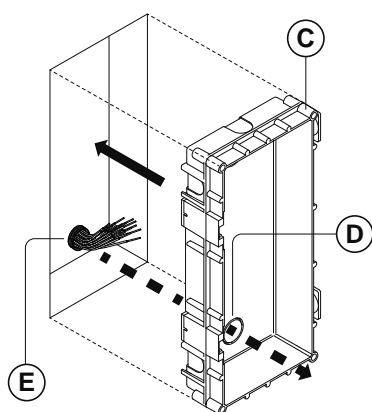

Fig. 49
3. Set the flush box (C) into the hole in the wall feeding the connecting cables (E) through the appropriate flush box opening (D), as shown in **Fig.49**;